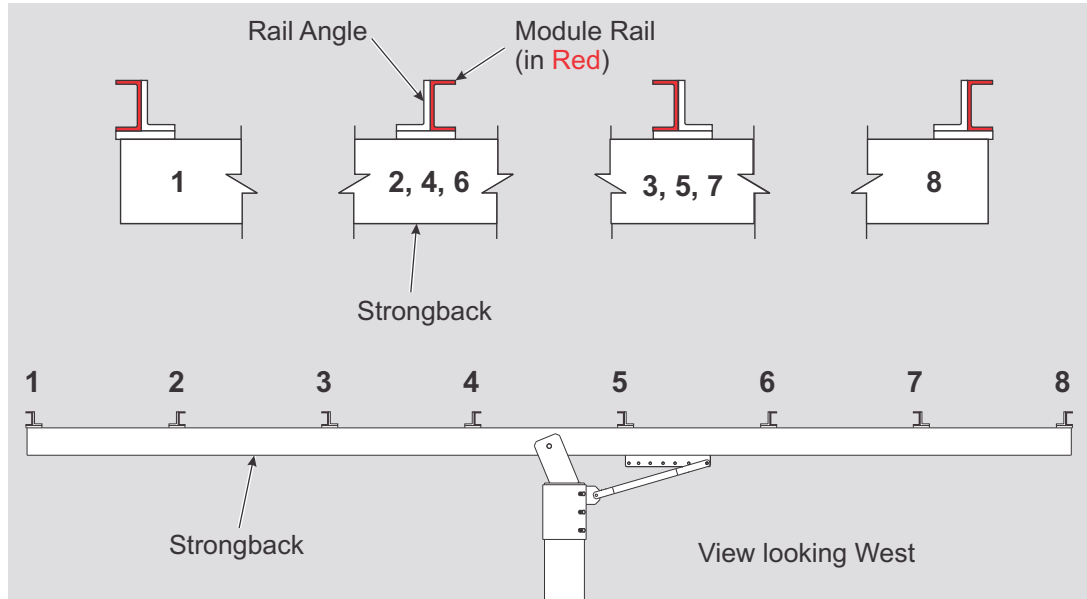

Figure 4-1: Orientation of Module Rails to Strongback
Module Rails must also be properly oriented to the Strongback. If not the PV Modules will not align to the mounting holes of the Module Rails. (See Figure 4-1)
- A. Referring to Figure 4-1 for orientation of the inboard Module Rails, position the first section of Module Rail (with its angle cut end positioned north) at the northern most position on the Cross-Bars. Align the Module Rail